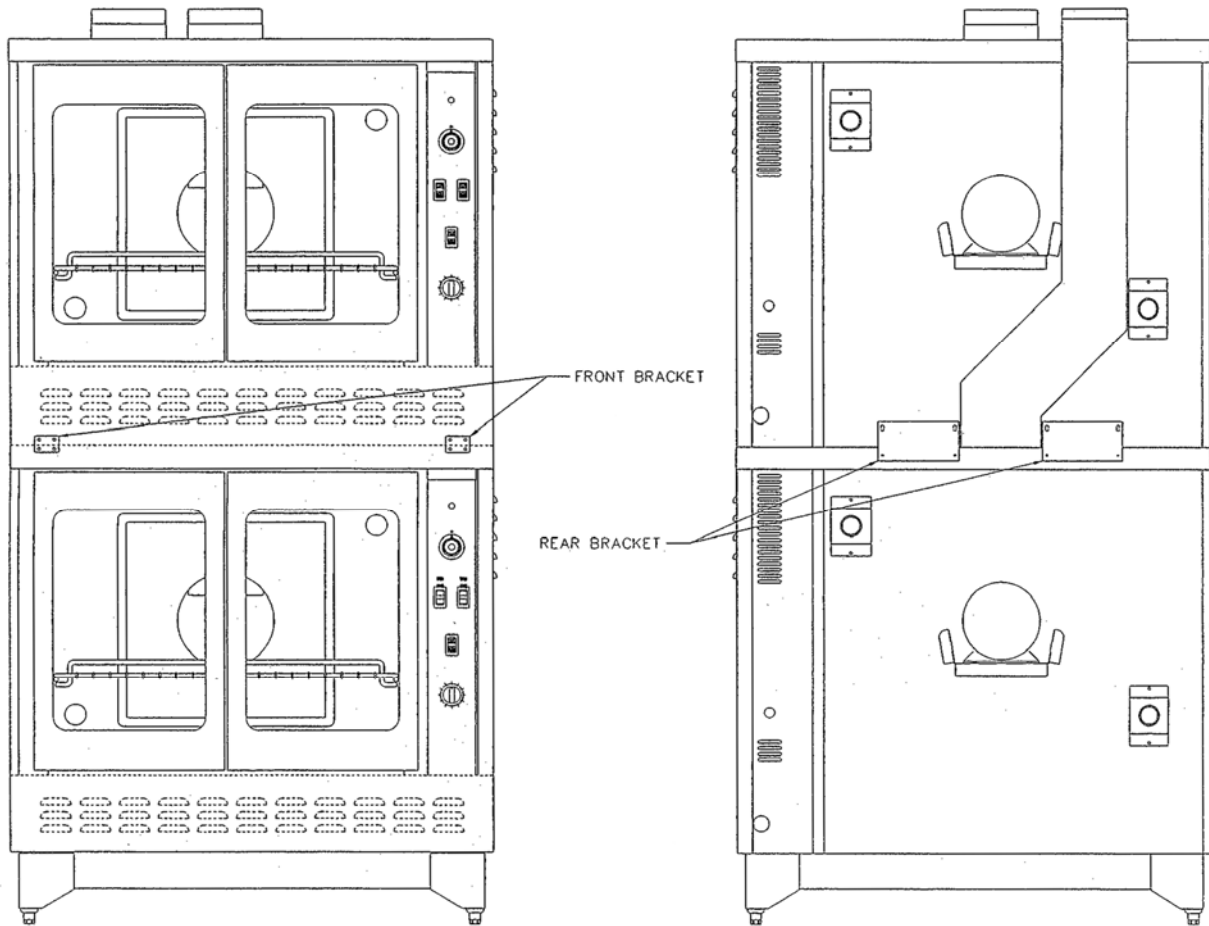

Figure 2
3. Bolts down at rear and front as shown in Figure 2. Remove top kick plate to access screwing the front bolts.
4. Assemble bottom flue extension as shown in Figure 2.